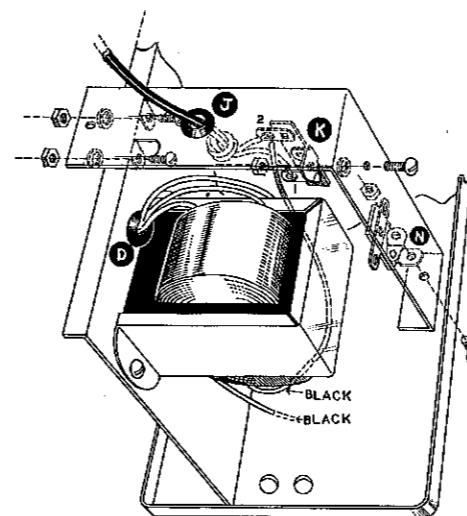
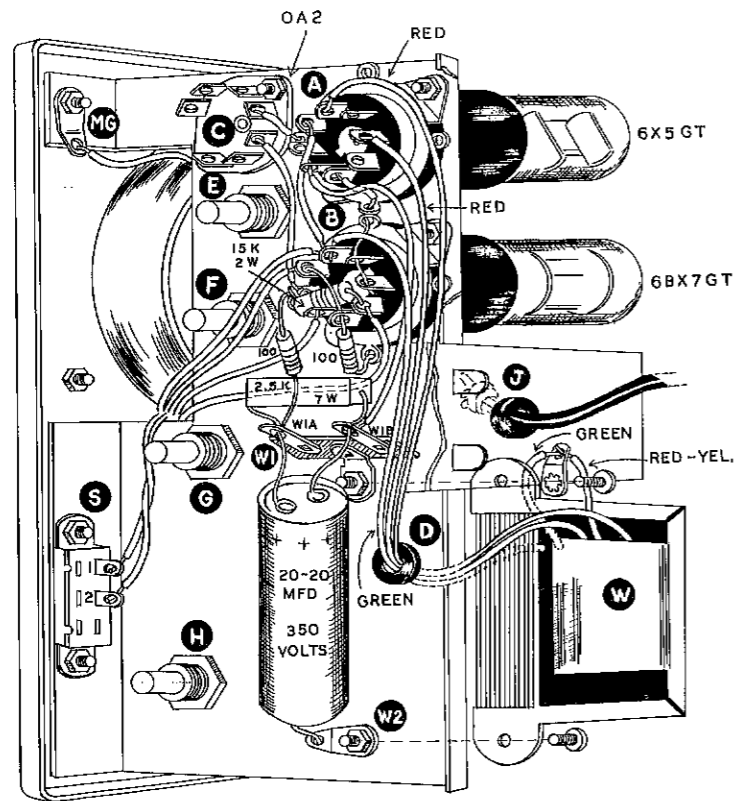

Figure 10. Mounting chassis bracket.
Figure 12. Wiring chassis.
- () Connect a wire from H3 (S) to R11 (S).
- () Connect a wire from G1 (S) to R10 (S).
- () Connect a wire from R9 (S) to F1 (S).
- () Connect a wire from R8 (S) to E1 (S).
- () Connect a wire from R6 (NS) to B4 (S).
- () Connect the cathode lead of a crystal diode to the ground lug N (S). See Chart on Page 16.
- () Connect the other lead of the crystal diode to R6 (S).
- () Connect a wire from N1 (S) to B2 (NS).
- () Connect a short piece of wire from P1 (S) to the frame of the pilot light socket (S).
- () Connect a wire from P2 (S) to B7 (NS).
- () Mount the power transformer in location W. Refer to Figure 12. Under the head of the screw in location W1, mount a solder lug and under the nut of the same screw, mount a 2-lug terminal strip. Under the nut in location W2, mount a solder lug.
- () Connect the red-yellow lead of the power transformer to the ground lug at W1 (NS).
- () Connect one of the green leads of the power transformer to the ground lug at W1 (S).
- () Mount the chassis bracket as shown in Figure 10. Raise the 1-lug terminal strip and ground lug in location N and place the chassis bracket in position. Replace the terminal strip, solder lug and nut. Mount the other end of the bracket with 6-32 hardware as shown.